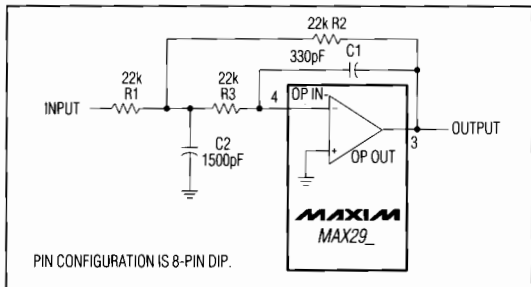

Figure 4. Uncommitted Op Amp Configured as a 2nd-Order Butterworth Lowpass Filter ( $F_0 = 10\text{kHz}$ )
The uncommitted op amp has its noninverting input connected to the GND pin, and can be used to build a 1st- or 2nd-order continuous-time lowpass filter. This filter is intended for anti-aliasing applications preceding the switched-capacitor filter, but it can be used as a post-filter to reduce clock noise. Figure 4 shows one of many filters that can be built with this op amp: a 2nd-order Butterworth filter with a 10kHz corner frequency and an input impedance greater than 22k $\Omega$ . Table 1 gives alternative component values for different corner frequencies of the same Butterworth filter.
Table 1. Component Values for Figure 4's Filter
As the passband ripple of the MAX293/MAX294/MAX297 elliptic filters is of the order of  $\pm 0.1\text{dB}$ , it is normally appropriate to keep the passband errors of any anti-aliasing filter at or below this level. This is achieved by choosing the corner frequency of Figure 4's Butterworth filter ( $f_{cB}$ ) to be higher than the corner frequency of the elliptic switched-capacitor filter ( $f_{cE}$ ) by a factor of 2.5 or more. A factor of 5 or more is recommended to avoid problems with component tolerances, i.e.  $f_{cB} > (5)f_{cE}$ .